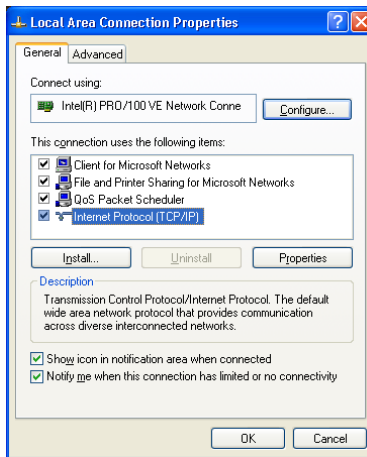

Figure 58: Local Area Connection Properties Window
5. Select the Internet Protocol (TCP/IP) and click the **Properties** Button (see Figure 58).